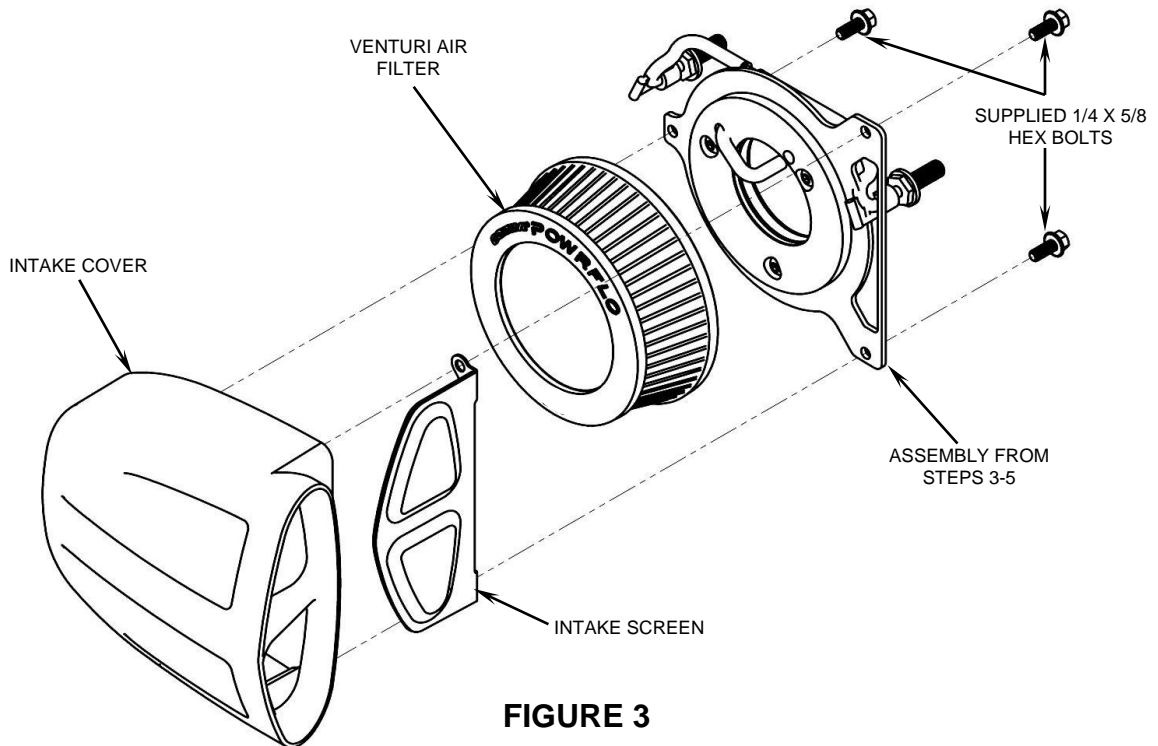

FIGURE 3
6. Align all the components with the throttle body and start threading the (3) buttonhead bolts into the throttle body. Tighten the three bolts evenly making sure the inner diameter of the velocity stack, gaskets, and spacer align with the inner diameter of the throttle body.
8. Place the supplied air filter onto the velocity stack. See **FIGURE 3**.
9. Insert the intake screen assembly into the POWRFLO™ intake cover so the holes in the bent tabs align with the threaded bosses. See **FIGURE 3**.
10. Place the intake cover over the air filter and align threaded bosses with the mounting plate holes. Insert the (3) supplied 1/4"-20 x 5/8" hex flange bolts through the mounting plate, intake screen and into the intake cover then tighten. See **FIGURE 3**.